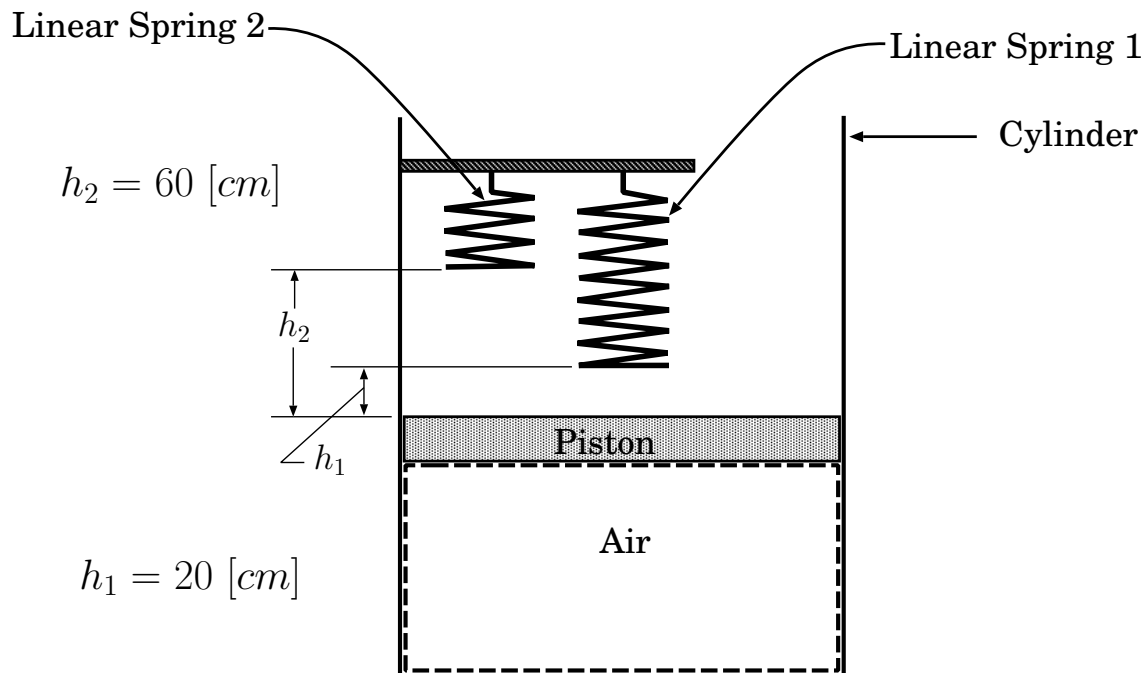

Figure 1: Piston-cylinder arrangement for problem 2
2. The piston-cylinder arrangement shown in Figure 1 contains air. Two linear springs with the same spring constant but different lengths are installed as shown above the piston. In the initial position, the piston is motionless and floating so that the top of the piston is 20.0 [cm] from the bottom of Spring 1 and 60.0 [cm] from the bottom of Spring 2. In this initial position (state 1) the air is at 450 [kPa] and 900 [K].